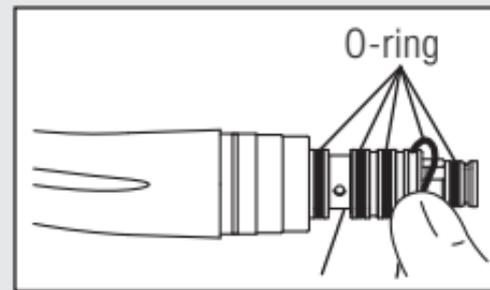

Fig. 40
- When inserting new O-rings, make sure they are inserted in the correct grooves (Fig. 40).